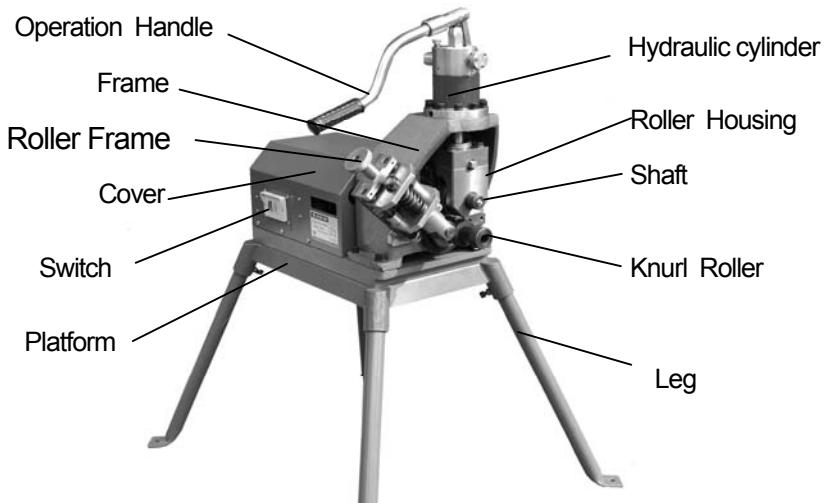

Fig.1
4.1 Put the four stand legs into the four holes of the platform from bottom to top and fasten them. (See Fig.1)
4.4 The roller frame reduces swing roll groove pipe process, as shown in Figure 1 Install wheel frame.